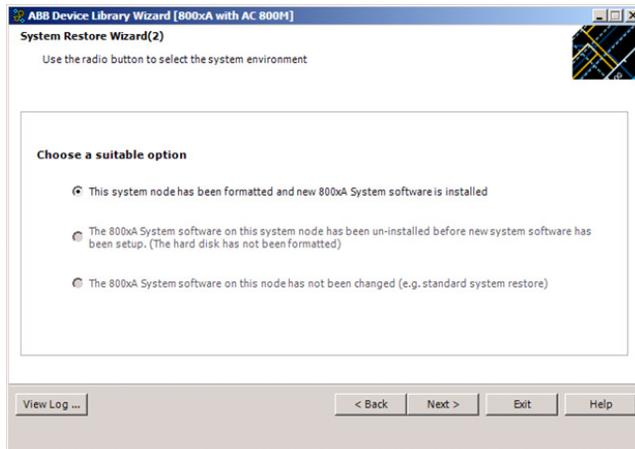

Figure 40. System Restore Wizard (2)
3. Choose whether or not this system node has been reformatted as shown in Figure 40 and click **Next**.